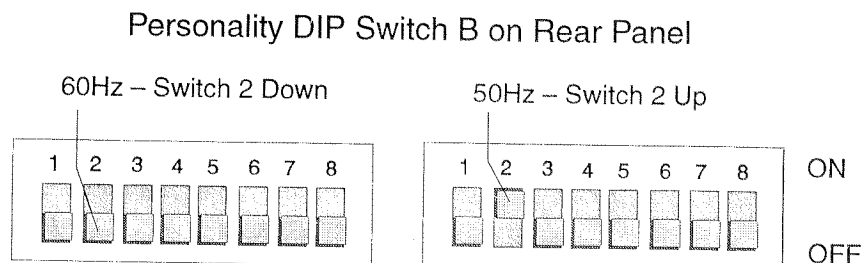

Figure 3.2. Setting Controller Frequency
You easily set or verify the frequency for the controller's input voltage to either 50 or 60 Hertz by setting a DIP switch on the rear panel. There are two Personality DIP switches on the rear panel labeled A (4 switches) and B (8 switches). DIP Switch A is currently not used. On Switch B: set Switch 2 to the "Up" (ON) position for 50 Hz, or set Switch 2 to the "Down" (OFF) position for 60 Hz. Refer to Figure 3.2.